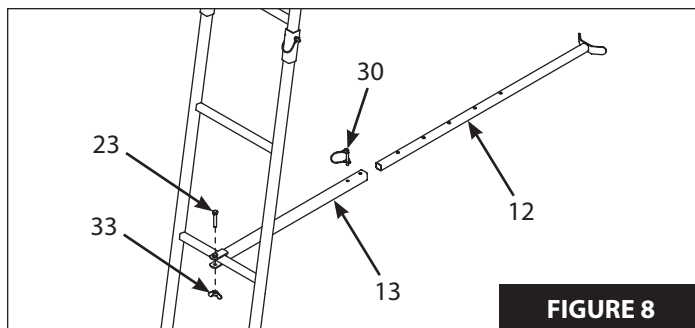
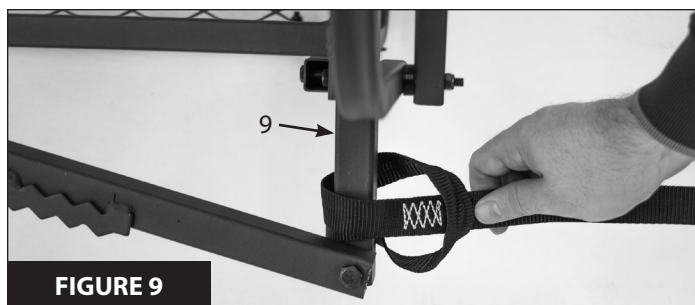
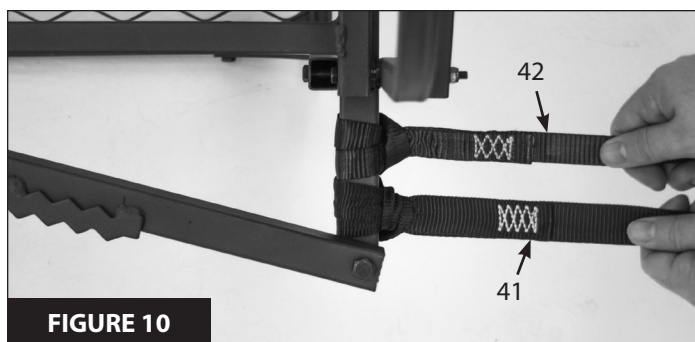

FIGURE 8
FIGURE 9
FIGURE 10
- a. Slide the stabilizer bar (12) into stabilizer bar extension tube (13) and secure together with spring lock pin (30). **SEE FIGURE 8**
- b. Attach the forward end of the horizontal stabilizer bar assembly to a rung of the ladder using 5/16-18 x 1-3/4" bolt (23) and 5/16" wing nut (33). **SEE FIGURE 8**
19. Preassemble 16' stabilizer straps (42) and 6' ratchet strap (41) as follows:
- a. Attach the two long ends of the 16' stabilizer (criss-cross) straps (42) to each side of the seat side rail (9) between the armrests and the tree blade. These long stabilizer straps should be attached by pulling the free end of the strap through the loop end of the strap to create a cinch knot around the rail tube. **SEE FIGURE 9**
- b. To aid in the ease of installation, pre-attach each end of the 6' ratchet strap (41) to each side of the seat side rail, between the 16' stabilizer straps (42) and the tree blade. Use the same method as above. **SEE FIGURE 9**. This way each end of the main ratchet strap is pre-attached before the stand is lifted from the ground. **SEE FIGURES 10 AND 11** showing the locations of the four ends attached.